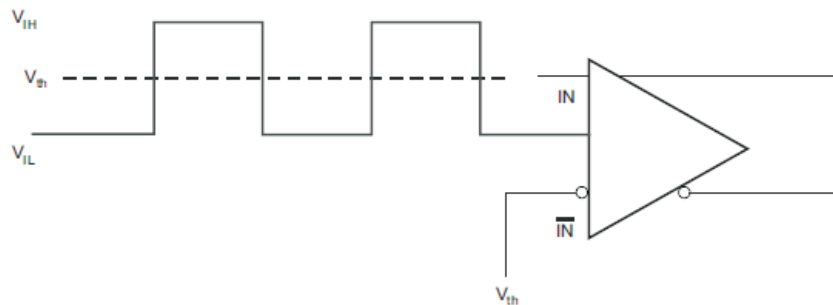

Figure 5. DC Coupled LVCMOS Input During Device Test
2.5-V LVCMOS INPUT (See Figure 5)